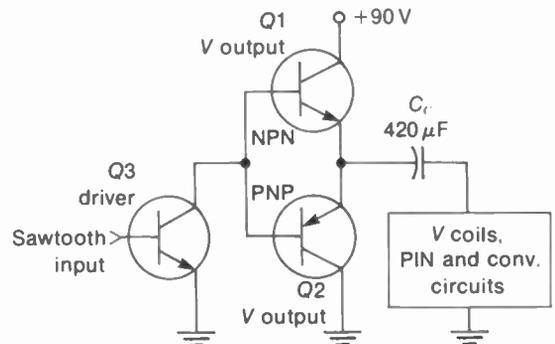

FIGURE 21-15 BASIC CIRCUIT FOR A TRANSISTOR PAIR AS PUSH-PULL VERTICAL OUTPUT STAGE. NPN AND PNP TRANSISTORS IN COMPLEMENTARY SYMMETRY PROVIDE PUSH-PULL OUTPUT.
Two transistors are often used in push-pull to provide the power output required for vertical deflection. Furthermore, transistor circuits can be arranged without the need for a center-tapped push-pull output transformer. One method uses PNP and NPN transistors in a *complementary-symmetry* output stage (Fig. 21-15). Another method uses a pair of NPN power transistors for the output stages, but the driver stages are opposite transistor types (a circuit called *quasi-complementary symmetry*).
In Fig. 21-15 the collector of the NPN transistor  $Q1$  uses +90 V for  $V_{cc}$ .  $Q1$  and  $Q2$  are in series across the 90-V supply. Therefore, the dc voltage at the emitter of  $Q1$  serves as the emitter voltage for  $Q2$ . The supply voltage is inverted for the  $Q2$  collector, since positive voltage at the emitter corresponds to negative collector voltage for this NPN transistor. The output deflection signal to the vertical deflection coils is taken from the junction of the emitters for  $Q1$  and  $Q2$ . The 470- $\mu$ F  $C_c$  blocks any dc voltage from the vertical scanning coils, which would shift the centering.
9. The vertical output stage may use PNP and NPN transistors in complementary symmetry (Fig. 21-15). This circuit is a push-pull amplifier, similar to the power output stage in audio circuits.
16. Refer to the transistor pair for push-pull output in Fig. 21-15. Why would the collector-emitter voltage of  $Q2$  be  $-45$  V when the emitter voltage of  $Q1$  is  $+45$  V to chassis ground?